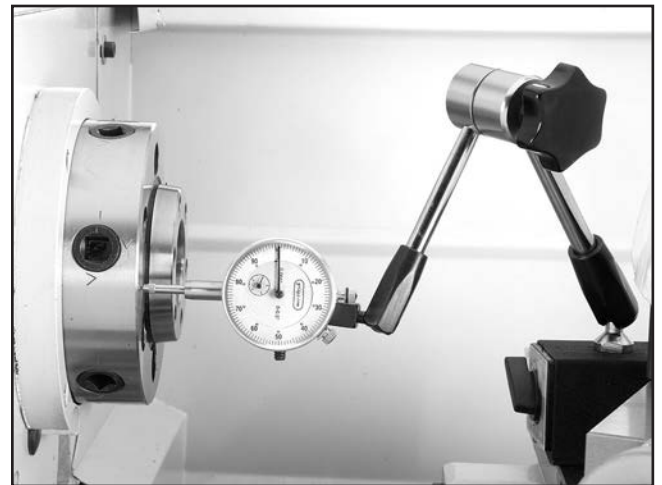

Figure 102. Dial indicator setup.
7. Place a dial indicator on the cross slide and move the carriage toward the headstock until the contact point of the indicator touches the spindle face (see **Figure 102**).